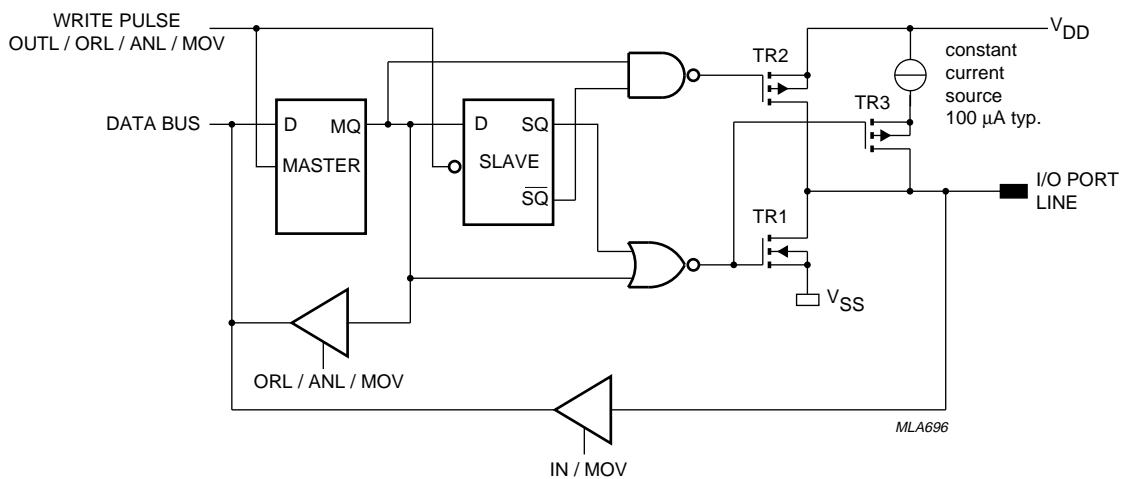

Fig.11 Standard output with switched current source.
The standard port configuration is illustrated in Fig.11. When a logic 0 is written to the master/slave flip-flop, TR2 and TR3 are both in the OFF condition. TR1 turns ON and drives the output to  $V_{SS}$ .
All standard and derivative port accesses are performed by two-cycle instructions. Their instruction timing is shown in Fig.11. For input, data on port lines is sensed during timeslots 3 and 4 of machine cycle 2 (see Sections 6.10 and 6.11). For output, the data change occurs in timeslot 7. For OUTL, data changes during machine cycle 1. For ANL, ORL and MOV Dx, A, data changes during machine cycle 2.
- Option 1 **Standard Port**; quasi-bidirectional I/O with switched pull-up current source of 100  $\mu$ A (typ.) and p-channel booster transistor TR2. TR2 is only active for 1 clock cycle during LOW-to-HIGH transitions (see Fig.11).